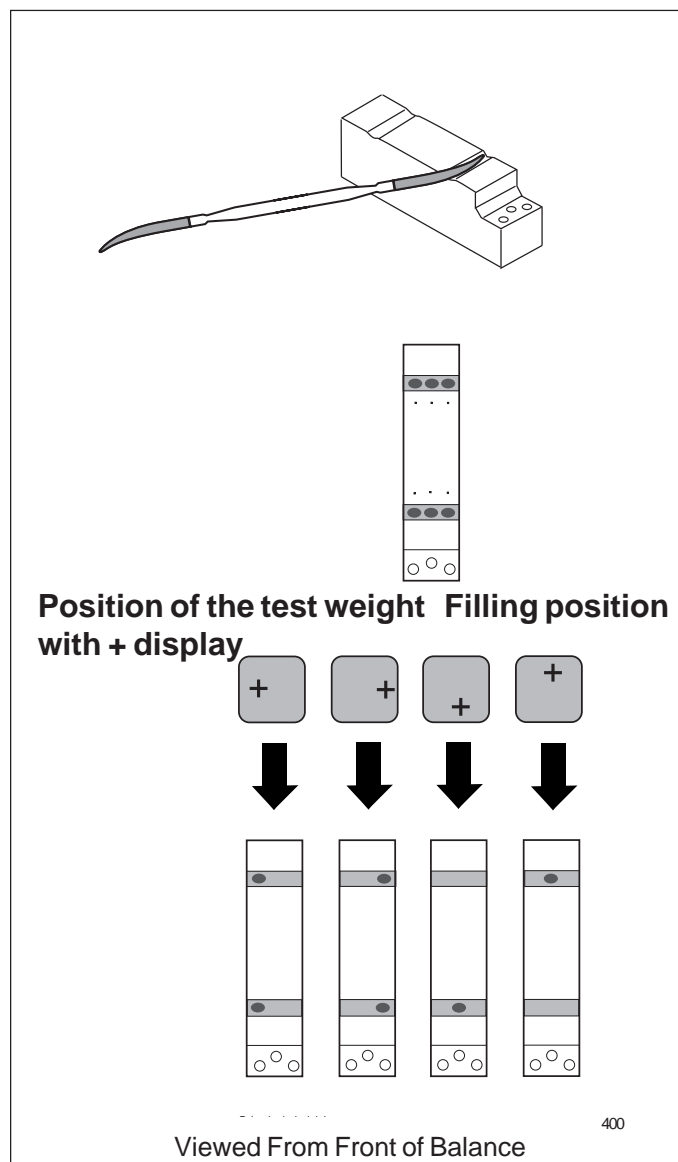

Figure 4-5. MFR Adjustments.
- File only in positions shown in Figure 4-5.
4. Determine associated filing position per Figure 4-5. Perform adjustment as required.